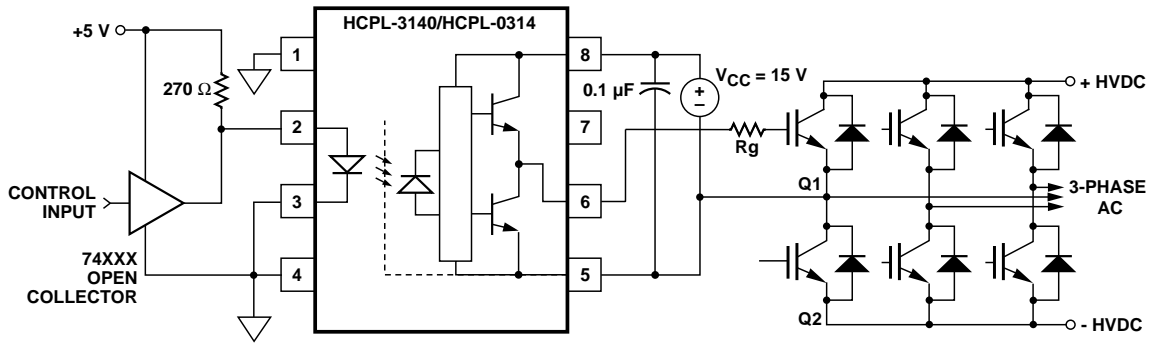
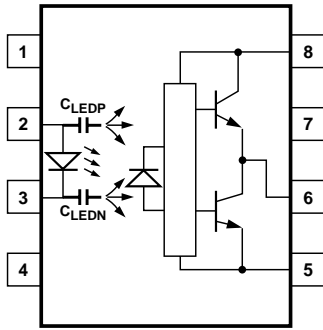
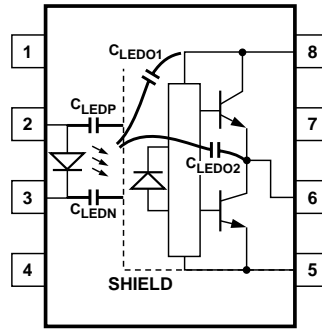

Figure 19. Recommended LED Drive and Application Circuit for HCPL-3140/HCPL-0314.
Figure 21. Optocoupler Input to Output Capacitance Model for Unshielded Optocouplers.
Figure 22. Optocoupler Input to Output Capacitance Model for Shielded Optocouplers.
HCPL-3140/HCPL-0314 on a small PC board directly above the IGBT) can eliminate the need for negative IGBT gate drive in many applications as shown in Figure 19. Care should be taken with such a PC board design to avoid routing the IGBT collector or emitter traces close to the HCPL-3140/HCPL-0314 input as this can result in unwanted
Step 1: Calculate R_g minimum from the I_{OL} peak specification. The IGBT and R_g in Figure 19 can be analyzed as a simple RC circuit with a voltage supplied by the HCPL-3140/HCPL-0314.
where $K_{ICC} \cdot Qg \cdot f$ is the increase in I_{CC} due to switching and K_{ICC} is a constant of 0.001 mA/(nC*kHz). For the circuit in Figure 19 with I_F (worst case) = 10 mA, R_g = 32 Ω, Max Duty Cycle = 80%, Q_g = 100 nC, f = 20 kHz and T_{AMAX} = 85°C:
Without a detector shield, the dominant cause of optocoupler CMR failure is capacitive coupling from the input side of the optocoupler, through the package, to the detector IC as shown in Figure 21. The HCPL-3140/HCPL-0314 improves CMR performance by using a detector IC with an optically transparent Faraday shield, which diverts the capacitively coupled current away from the sensitive IC circuitry. However, this shield does not eliminate the capacitive coupling between the LED and opto-coupler pins 5-8 as shown in Figure 22. This capacitive coupling causes perturbations in the LED current during common mode transients and becomes the major source of CMR failures for a shielded optocoupler. The main design objective of a high CMR LED drive circuit becomes keeping the LED in the proper state (on or off) during common mode transients. For example, the recommended application circuit (Figure 19), can achieve 10 kV/μs CMR while minimizing component complexity.
supplied by the LED, and it is not recommended for applications requiring ultra high CMR_L performance. The alternative drive circuit which like the recommended application circuit (Figure 19), does achieve ultra high CMR performance by shunting the LED in the off state.